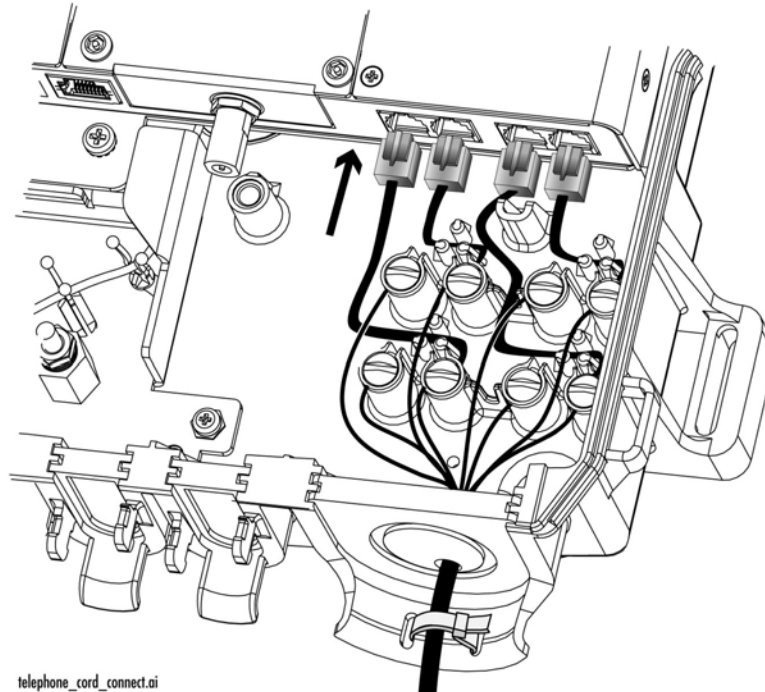

Figure 14. Connecting the Telephone Wires
2. Connect the telephone wires to each pair of telephone terminal posts in the enclosure, as well as the appropriate RJ-11 connectors, as shown in Figure 14, at 5.3 in-lbs.